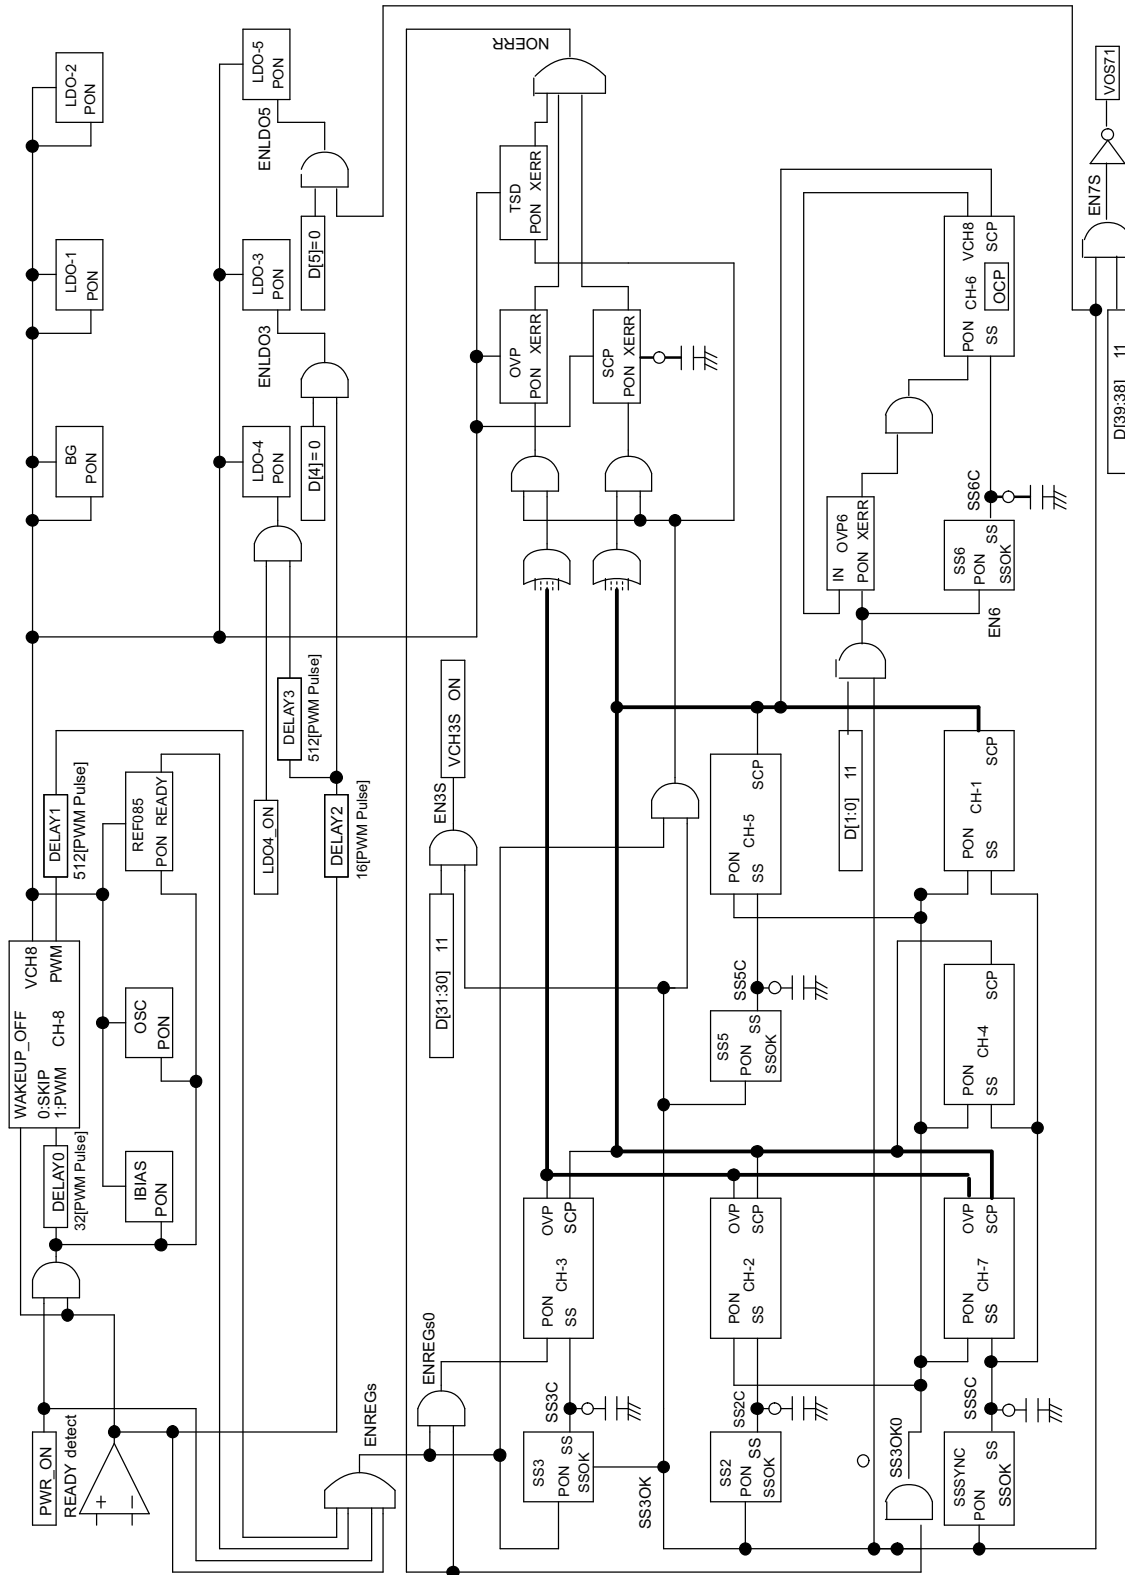
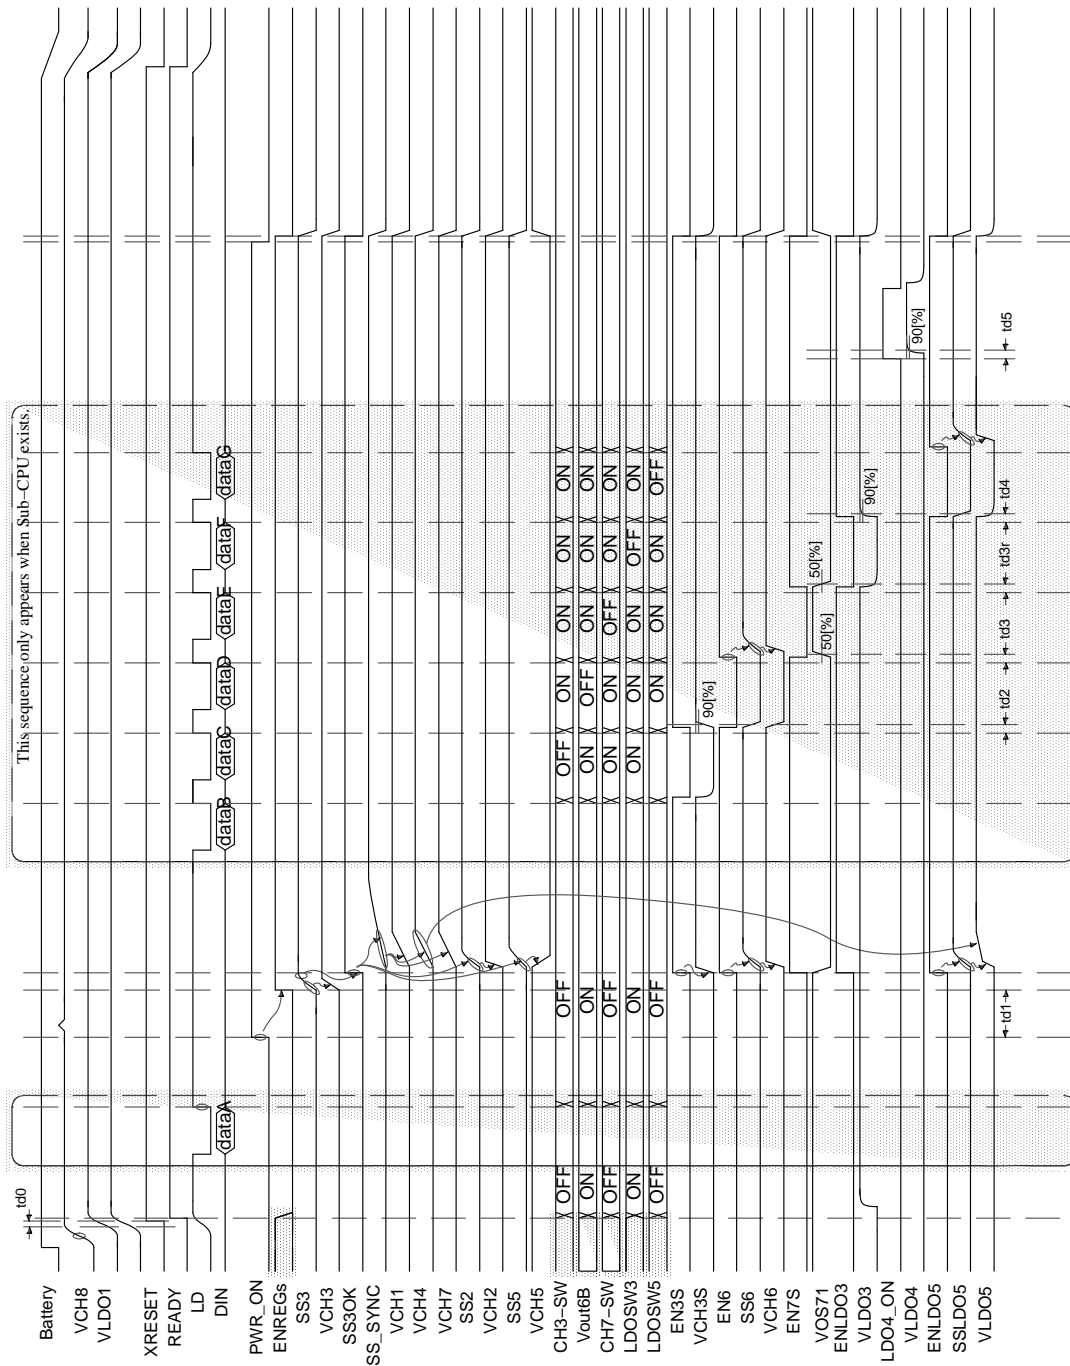

Figure 29. Enable Signal Connections
Figure 30. Operation Sequence Chart
A delay is inserted before LDO-3 is turned on so that the entire system can start up and be stable. LDO-3 cannot be turned on until approximately 30 µs elapse after the detection of READY. DELAY2 in Figure 29 represents this delay.
To prevent an inrush current during startup, LDO-4 has a delay so that it is not turned on simultaneously with LDO-3. LDO-4 cannot be turned on until 1.03 ms elapses after the detection of READY. This ensures that LDO-4 is not turned on until 1 ms elapses after the startup of LDO-3, which is turned on 30 µs after READY detection. DELAY3 in Figure 29 represents this delay.
Figure 29 shows the connection of enable signals for the TPS65520. Figure 30 shows a timing chart. In Figure 30, ENREGs, EN3S, EN6, EN7, ENLDO3, and ENLDO5 represent the internal enable signals shown in Figure 29.
In Figure 30, the TPS65520 performs the following operation, described along the time axis in the figure:
2. On the rising edge of PWR_ON, CH-8 exits from Skip mode and enters PWM mode. The DELAY0 and DELAY1 blocks, shown in the upper part of Figure 29, insert delays to ensure that the mode transition is over before channels start operating, resulting in a total delay of 544 PWM pulses to complete this process.
The shaded portions of Figure 30 represent the on/off control applied by the Sub-CPU (if used) through the serial interface. If a Sub-CPU is used, control registers are written between the rising edges of XRESET and PWR_ON. Any channels that have been turned off will not start until the Sub-CPU turns them on again. If the Sub-CPU specifies *off* for a channel that has been active from the startup, the channel goes off from that instant.